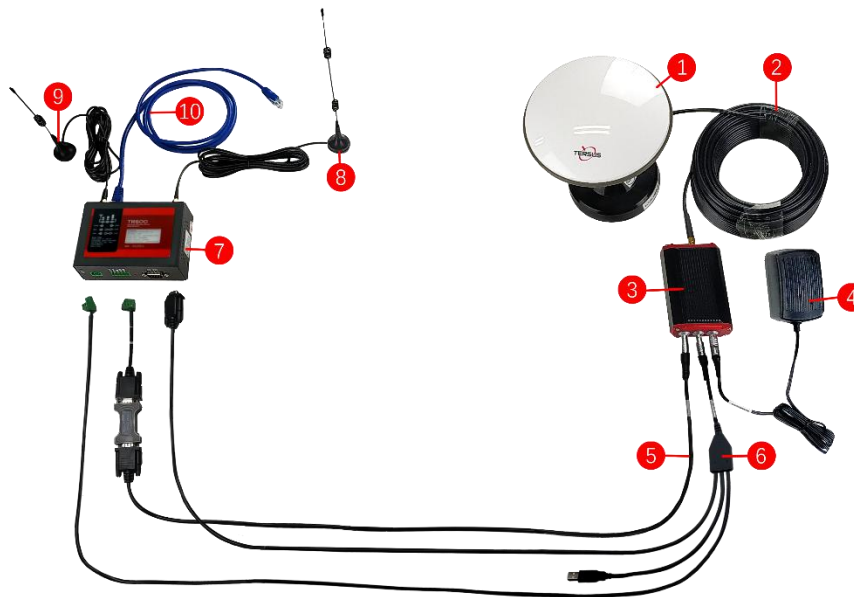

Figure 1 GeoBee System Set up
- 3) Place the antenna (AX3702 in the Figure 1) in the outdoor open environment. Install Wi-Fi antenna when Wi-Fi connection is available for communication. Install 4G antenna when 2G/3G/4G SIM card is used for communication.
- a. Use the 'DB9 Female to USB Type A Male converter cable' to connect the COMM1 cable in Figure 1 and a computer, open Tersus GNSS Center application on the computer, and type below commands in the command window: